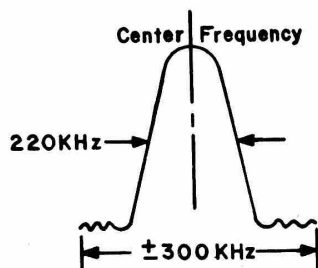

Figure 4
3. Tune the FM Generator, modulated +300KHz @ approximately 20uV output level, to the receiver frequency. Connect an RF Detector Probe to Pin 1 of IC204 (HA1137) and center the FM IF response on the oscilloscope. The FM IF bandpass characteristics are now being displayed. Adjust the cores of the converter FM IF transformers T101 and 102 for maximum gain and symmetry (Figure 4).